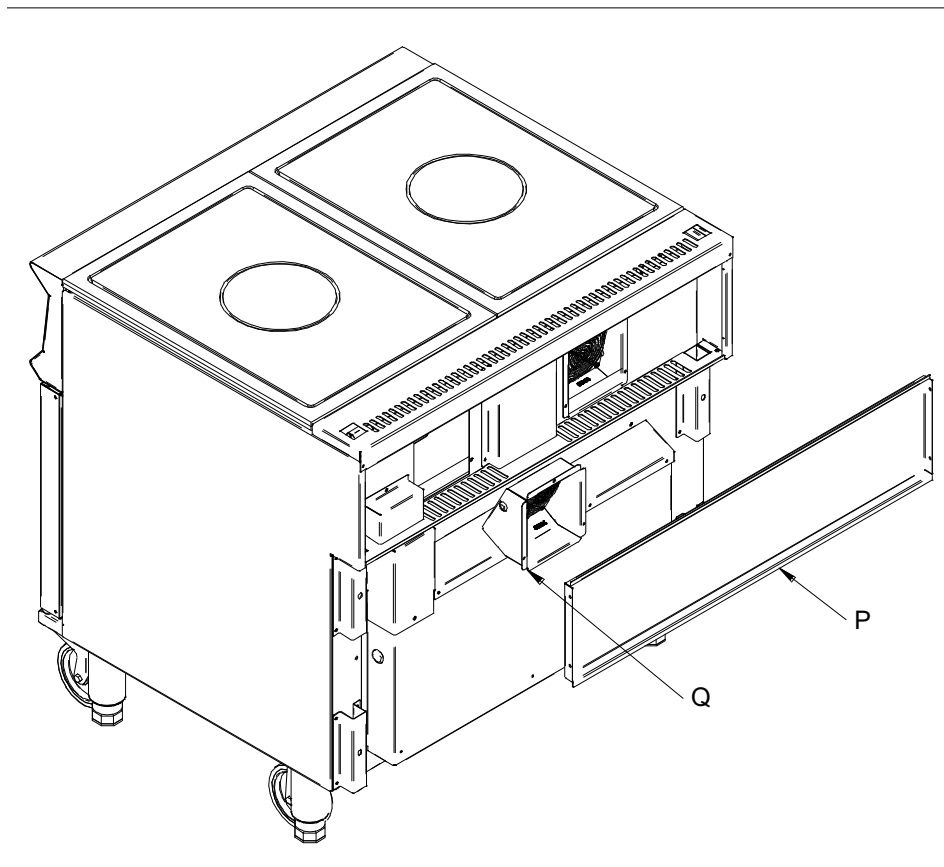

Fig 7
Working from the back of the appliance (Fig 7), undo the fixing screws and remove the upper back panel (P).